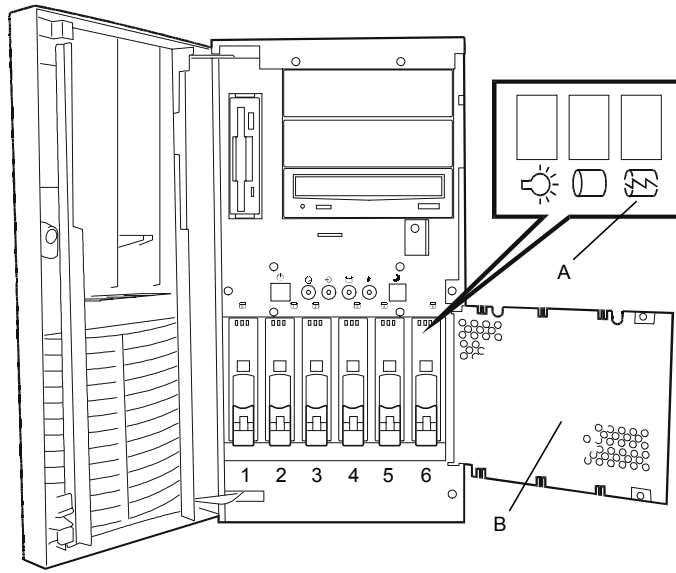

Figure 4-14. SCSI Disk Drive Installation Scheme
- If installing new drives, follow an installation scheme starting with the left-most drive. Fill the bays left-to-right (1 through 6). See Figure 4-14.
- If an individual SCSI drive fault LED (yellow light) is on steadily, this indicates that the drive has been flagged as faulty by the RAID host controller (See Figure 4-14,A). Follow the procedure described in this section to remove the faulty drive and swap in a good one.
2. Open the EMI metal panel in front of the hard drive cage by turning its two thumb lock screws counter clockwise (see Figure 4-14, B).